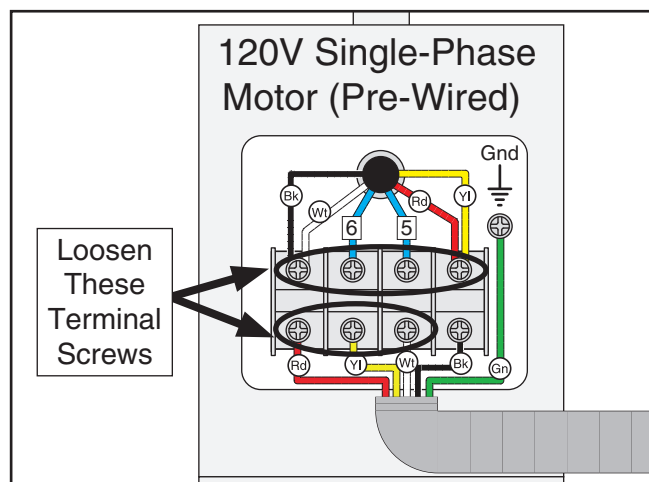

Figure 5. Locations to loosen terminal screws.
3. Open the motor junction box, then loosen the terminal screws indicated in **Figure 5**. Remove the wires connected to those terminals.